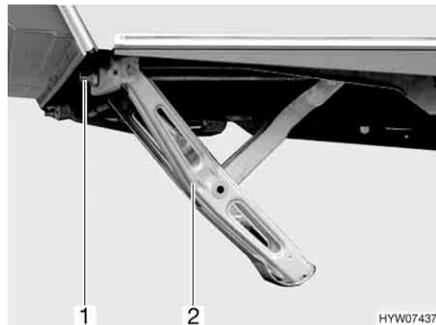

Fig. 23 Corner steady cranked down
- Place the hand crank handle provided as standard on the hexagonal nut (Fig. 23,1 or Fig. 24,1) of the corner steady (Fig. 23,2 or Fig. 24,2).